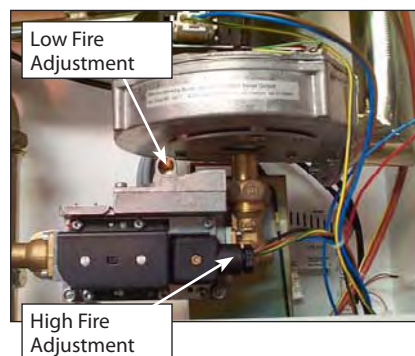

Fig 21.ob
n) To adjust the LOW FIRE rate, use the '←' or ▼ buttons to set the controller to 0% burner output. After the burner has stabilized, adjustments can be made to 'Low Fire' adjuster on the gas valve (clockwise to increase, anti-clockwise to decrease the CO₂). After each adjustment, let the burner stabilize for a minute, then check levels again. See Fig 21.ob. Continue until the CO₂ levels are as listed in the table above.